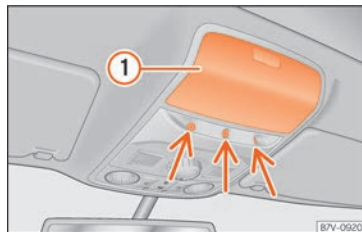

**Fig. 93** On the roof console: passenger compartment monitoring sensors.
- Close the storage compartment »» Fig. 93 ① on the roof console, otherwise the interior monitoring function (arrow) is not guaranteed to work freely.